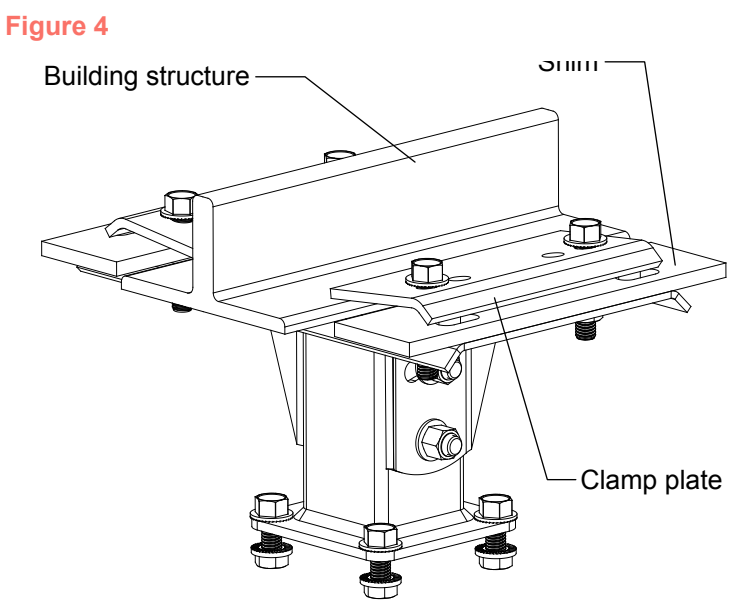

Figure 4
- Install clamps. For thick flange I-beams add shims as required. Fasten using the supplied 1/2" dia x 2-1/2" screws and lock nuts. Torque to 44-48 ft-lbs. See Figure 4.